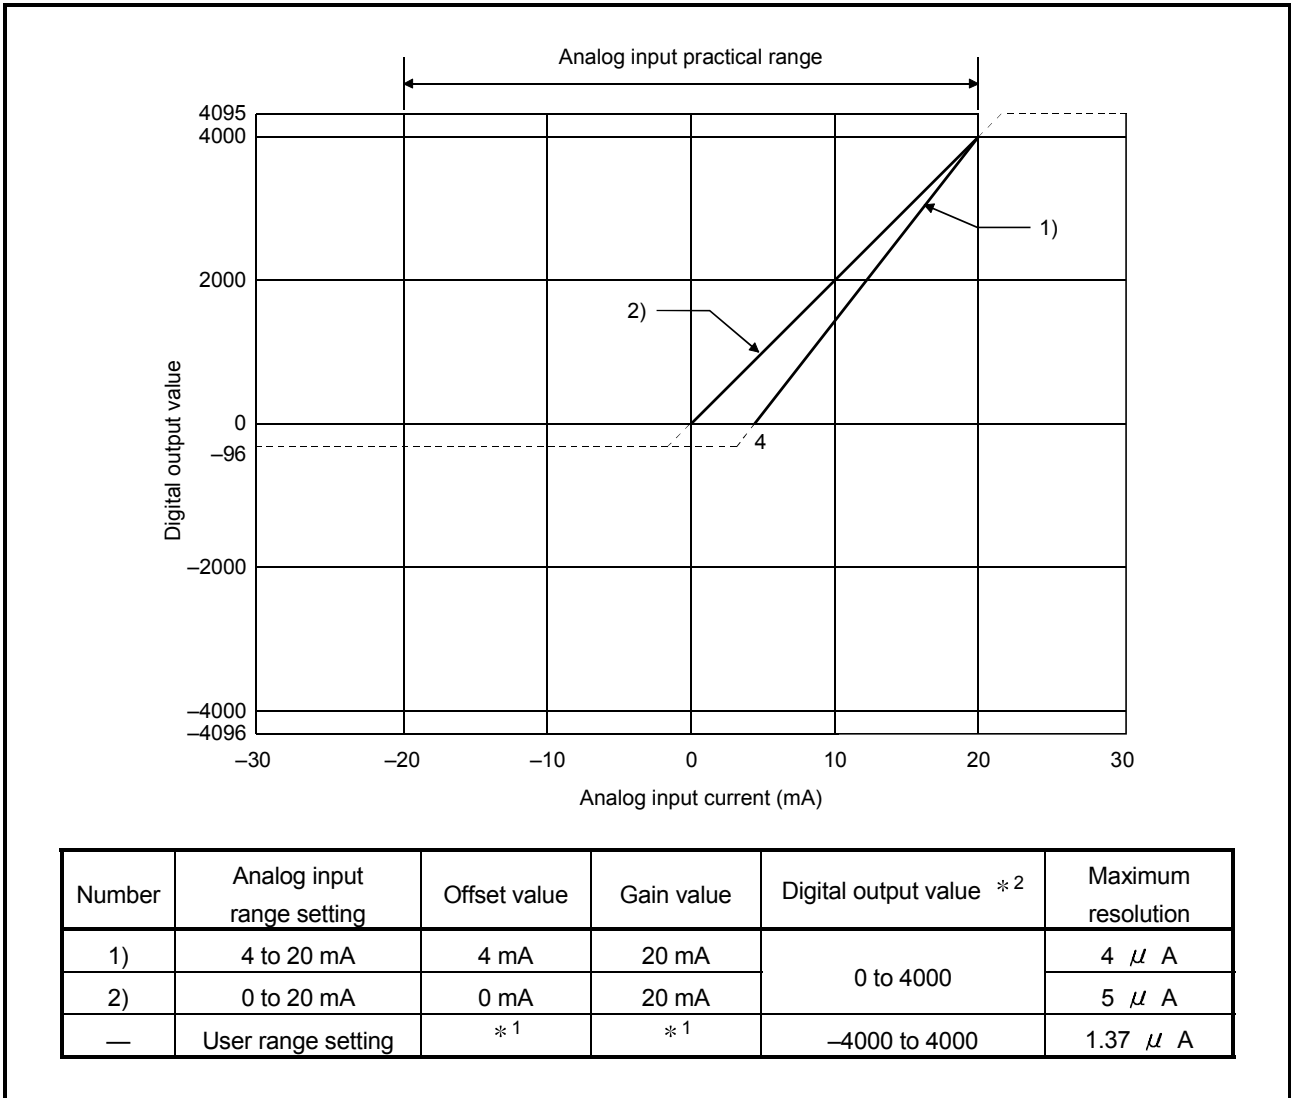

Figure 3.3 Current input characteristic in normal resolution mode
Figure 3.3 shows a graph of the current input characteristic in normal resolution mode.
<p>(1) Set within the analog input range and digital output range for each input range. If these ranges are exceeded, the maximum resolution and accuracy may not fall within the performance specifications. (Avoid using the dotted line area shown in Figures 3.3 and 3.4.)</p> <p>(2) When inputting an analog current out of the range between -30mA to 30mA, the elements may be damaged.</p> <p>(3) Set the offset/gain values for the user range setting *1 within a range in which the following conditions are met.</p> <p>(a) Offset value, gain value setting range: -20.0 to 20.0mA</p> <p>(b) Choose either one of the following formulas, which corresponds to the resolution mode to be set.</p> <p>1) Normal resolution mode: { (Gain value) - (Offset value) } &gt; 5.5mA</p> <p>2) High resolution mode: { (Gain value) - (Offset value) } ≥ 16.0mA</p> <p>(4) When an analog value that exceeds the range of Digital output value *2 is entered, Digital output value will be fixed at the maximum or minimum value.</p>